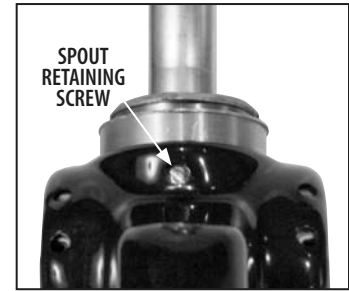

FIGURE 8
- 7) With a gentle twisting motion, insert the new spout assembly into the outlet end of the nozzle such that the retaining screw hole on the nozzle body matches the hole on the spout (*Figure 8*). If the retaining screw holes on the nozzle body do not match the holes with the spout, twist the spout slightly so that the holes align with each other.